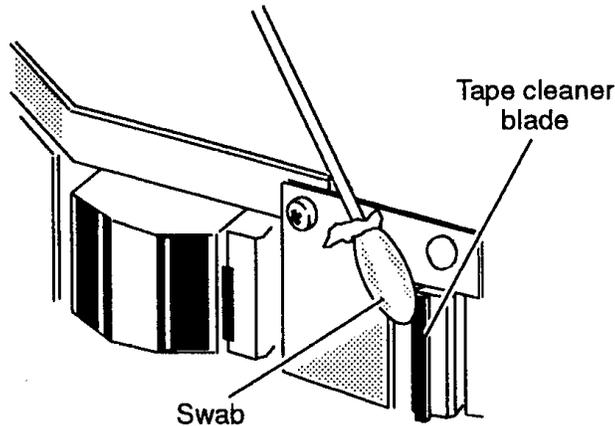

Figure 6-4 Cleaning the Tape Cleaner
3. Clean the tape cleaner blade as shown in Figure 6-4.